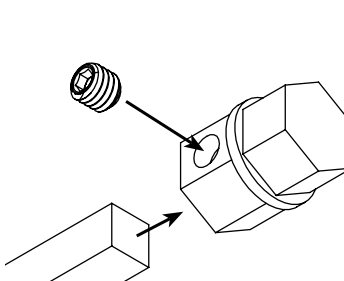

Figure 9A. Attaching the Drive Rods to the Motor
Step 6. Next you need to attach the Drive Rods to the Motor. The Drive Rod attaches to the Motor using the Motor Shaft Adapters. Push an adapter onto one end of each Drive Rod, using an allen wrench to tighten the set screw. Make sure not to overtighten or you could crack the adapter. See **Figure 9A**.